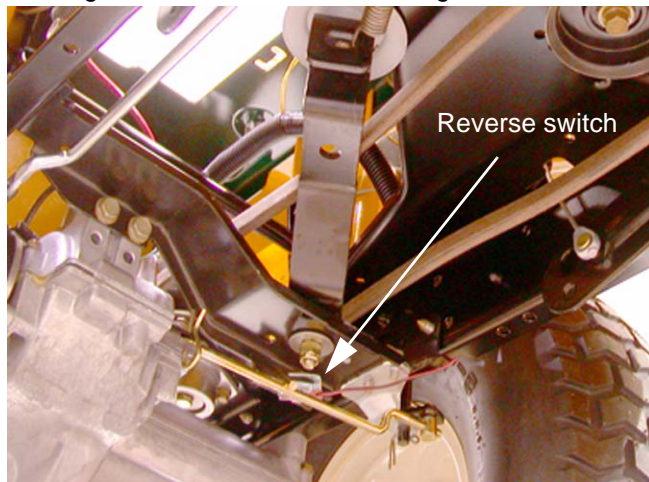

Figure 39.5
39.5. The **Reverse Safety Switch** is a simple metal contact tang. The gear selector touches it when placed in the reverse position, providing a ground path through the gear sector lever itself. See Figure 39.5.